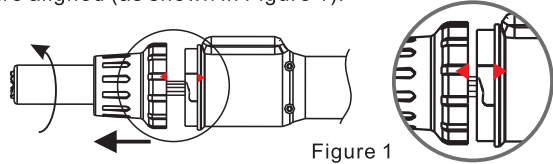

Figure 1
- Place the FP pick-up under the IC lead. Slip the FP pick-up wire under the IC lead. (Figure 1)
- If the display screen of DES 560B and DES 560C is **OFF** after displaying the originally set temperature and air volume, the system is in standby mode instead of working. (As shown in Figure 1 and 2);
- Taking DES 560B as an example: while rotating the temperature adjusting knob, the display screen should show the temperature required to be set, such as 350°C; (as shown in Figure 1);
- Taking DES 560B as an example: while rotating the air volume adjusting knob, the display screen should show the air volume required to be set, such as grade 5; (as shown in Figure 1);
Once the solder has melted, remove the IC by lifting the FP pick-up. (Figure 1)
Refer to the figure 1 to preheat SMD.
1. Take out the high-temperature casing head; firstly, rotate the casing head, and then take off it when the two triangles at back are aligned (as shown in Figure 1).